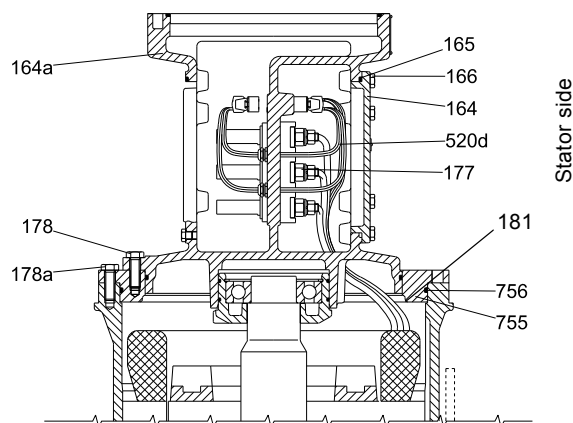

Fig. 31 Terminal box (without motor top cover), range 74
3. Remove the screws (166) from the terminal box cover (164) on the stator side. See fig. 31.
4. Remove the terminal box cover (164) including the O-ring (165) from the terminal box (164a).
6. Disconnect the power cables (181) from the terminal board (177) by removing the hexagon head screws (10) and washers (11).
8. Remove the terminal box (164a) including the intermediate ring (755) using a hoist.
9. Remove the O-ring (756) from the intermediate ring (755).